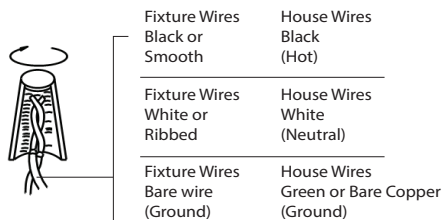

Fig.4 Sealing
8. To prevent moisture from entering the outlet box and causing a short, use clear caulking (i.e. indoor/outdoor silicone sealant) to outline the outside of fixture back plate where it meets the wall. Leave a space at the bottom to allow moisture to escape (Fig.4)